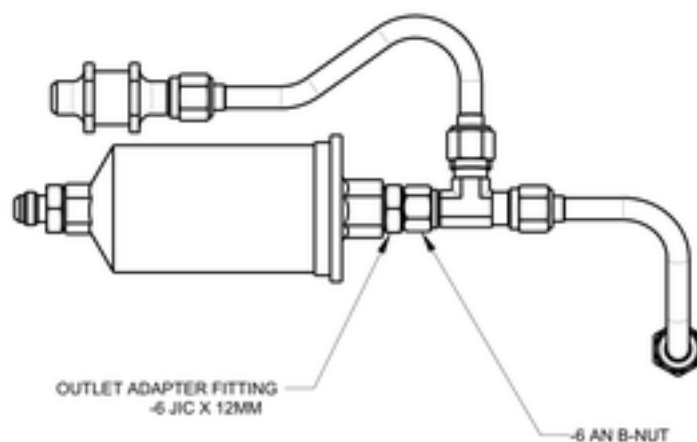

FIGURE 11-23
10. At the fuel filter outlet, loosen the -6 AN B-nut with an 11/16 wrench while holding the 12mm adapter fitting with a 3/4 wrench. See Figure 11-23.
3. Use a 3/4 wrench to hold the 12mm adapter fitting at the fuel filter outlet and a 11/16 wrench to torque the -6 AN B-nut to 110-130 in-lbs. See Figure 11-23.